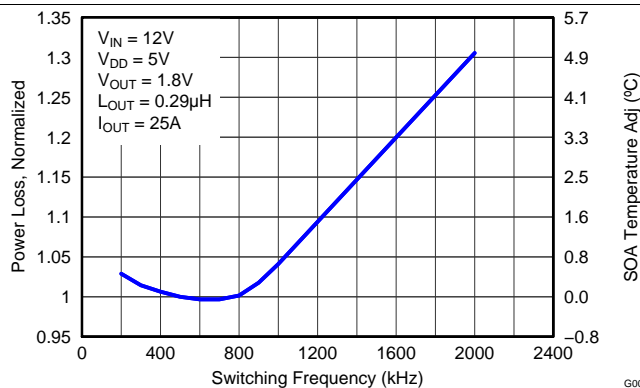

Figure 6. Normalized Power Loss vs Frequency
- Normalized Power Loss for switching frequency ≈ 1.04 (Figure 6)
- SOA adjustment for switching frequency $\approx 0.7^{\circ}\text{C}$ (Figure 6)